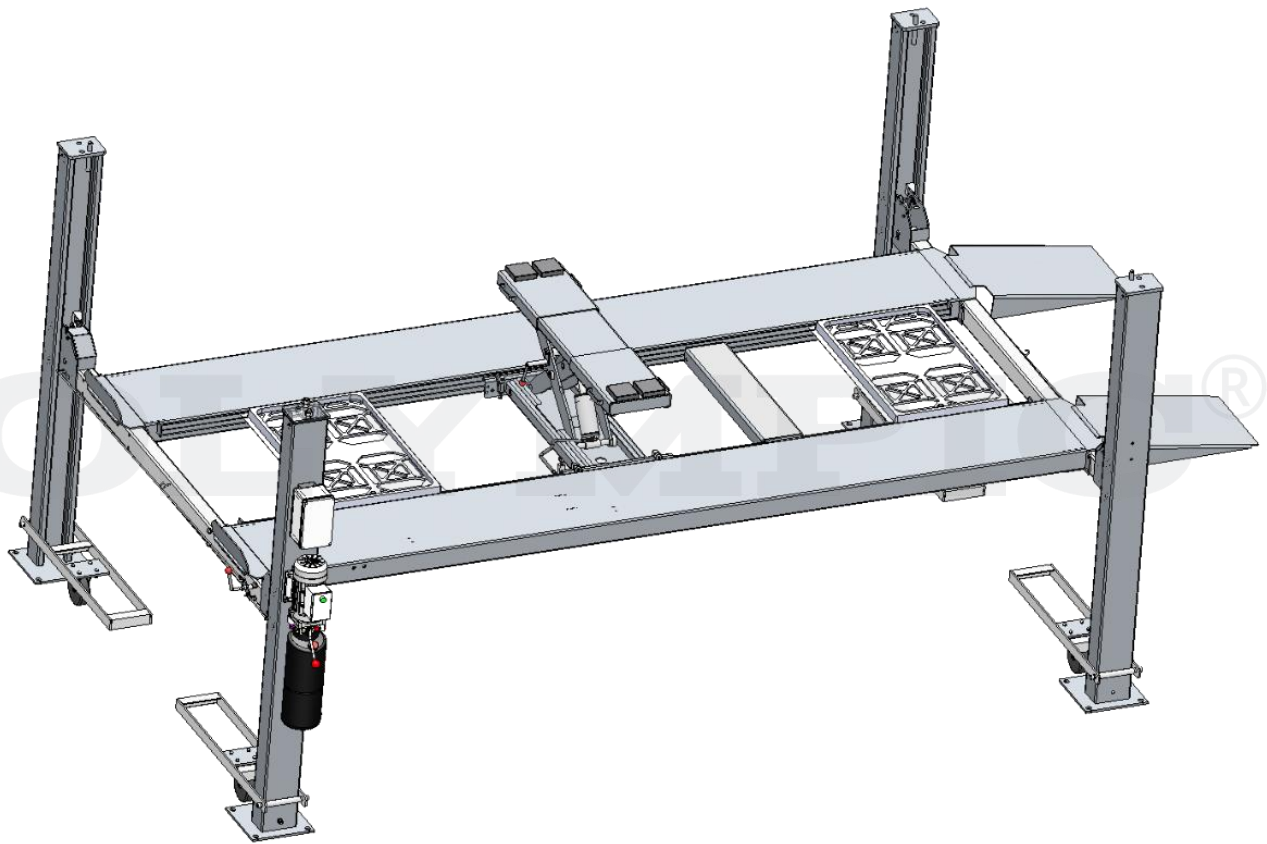

Fig.1
I. **PRODUCT FEATURES AND SPECIFICATIONS**(See Fig. 1)